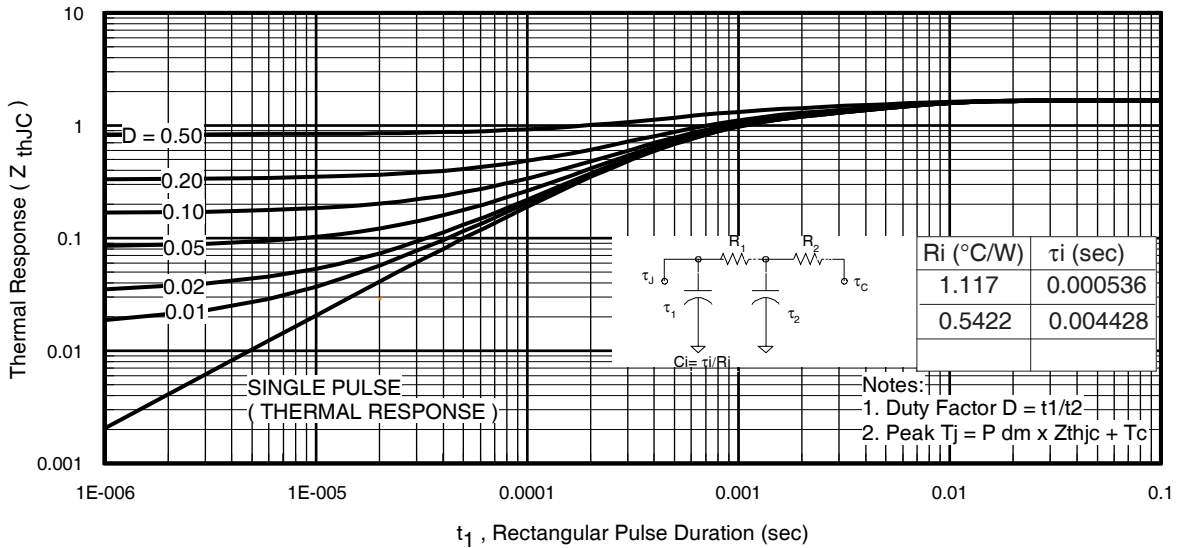
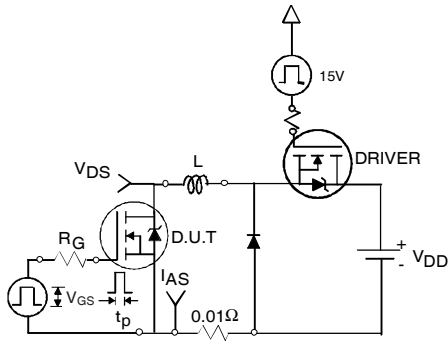

Fig 11. Maximum Effective Transient Thermal Impedance, Junction-to-Case
Fig 12a. Unclamped Inductive Test Circuit
- ① Repetitive rating; pulse width limited by max. junction temperature. (See fig. 11).
- ② Limited by T_{Jmax} , starting $T_J = 25^\circ\text{C}$, $L = 0.09mH$, $R_G = 25\ \Omega$, $I_{AS} = 42A$, $V_{GS} = 10V$. Part not recommended for use above this value.
- ③ Pulse width $\leq 1.0ms$; duty cycle $\leq 2\%$.
- ④ $C_{oss\ eff.}$ is a fixed capacitance that gives the same charging time as C_{oss} while V_{DS} is rising from 0 to 80% V_{DSS} .
- ⑤ Limited by T_{Jmax} , see Fig.12a, 12b, 15, 16 for typical repetitive avalanche performance.
- ⑥ This value determined from sample failure population, starting $T_J = 25^\circ\text{C}$, $L = 0.09mH$, $R_G = 25\ \Omega$, $I_{AS} = 42A$, $V_{GS} = 10V$.
- ⑦ When mounted on 1" square PCB (FR-4 or G-10 Material). For recommended footprint and soldering techniques refer to application note #AN-994.
- ⑧ R_G is measured at T_J approximately 90°C .
3. Equation below based on circuit and waveforms shown in Figures 12a, 12b.
$Z_{thJC}(D, t_{av})$ = Transient thermal resistance, see figure 11)